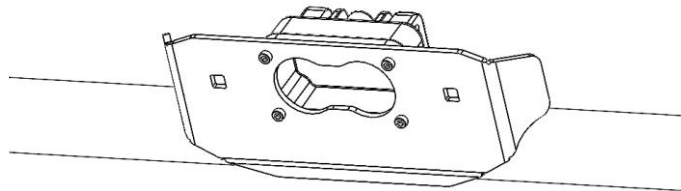

Figure 3: Positioning Light Mount along Roof Rack Rail
3. Decide the location of the Light Mount along your Roof Racks tubular rails as shown in Figure 3.